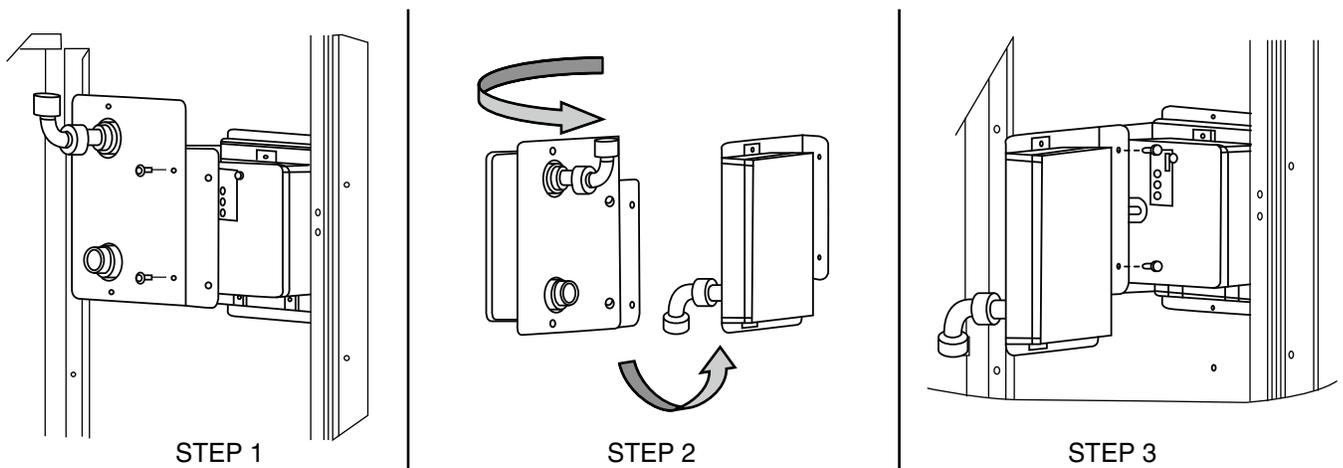

Fig. 113 — Completing Installation of Return Air Smoke Sensor
1. Unscrew the two screws holding the Return Air Smoke Detector assembly. See Fig. 113, Step 1.
3. Turn the assembly 90 degrees and then rotate end to end. Make sure that the elbow fitting is pointing down. See Fig. 113, Step 2.
4. Screw the sensor and detector plate into its operating position using screws from Step 1. See Fig. 113, Step 3.